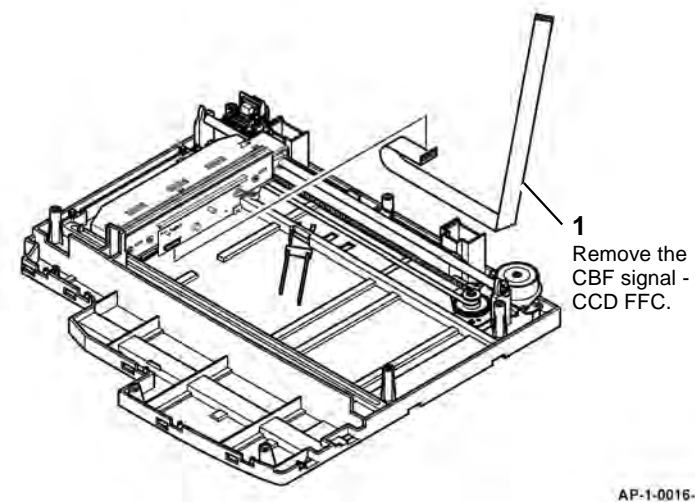

Figure 14 CBF signal - CCD FFC removal
16. Remove the CBF signal - CCD FFC, Figure 14.